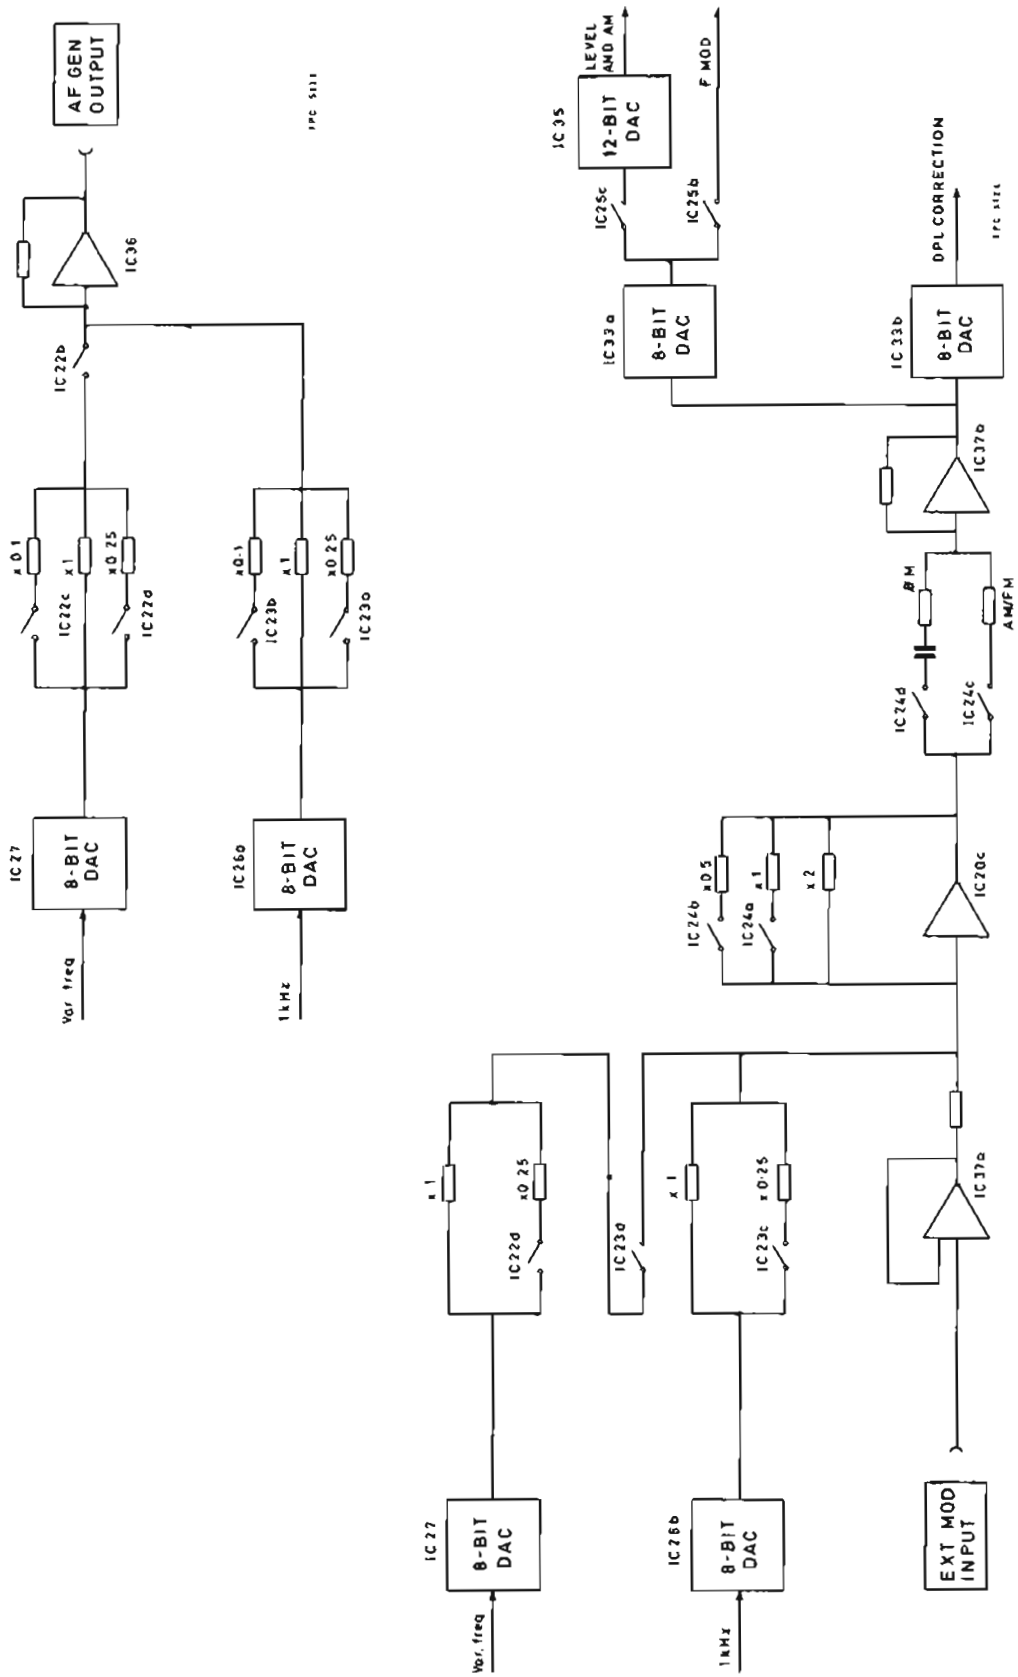

Fig. 7 Level control switching - AB6
67. The signals are further ranged using switched gain amplifiers IC36 and IC20c to give x1, x0.25 and x0.1 at the front panel AF GEN OUTPUT socket and x1 and 0.25 into the modulation section (see Fig. 7).